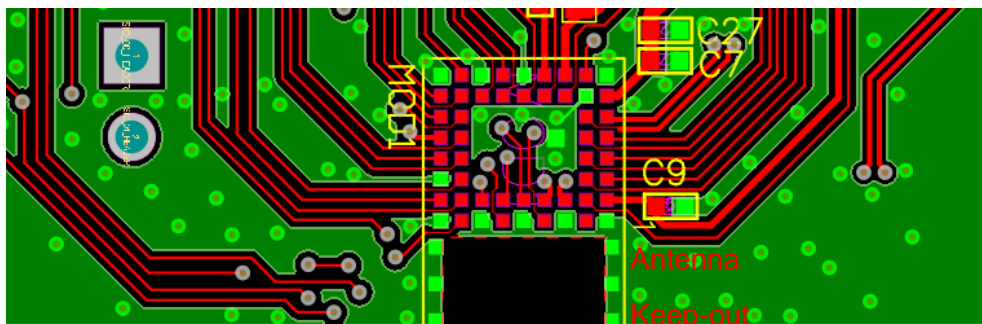

Figure 12: PCB trace Antenna keep-out area (shown in red), corner of the BL653 μ development board for the 453-00059 module.
- The BL653 μ development board has the 453-00059 module on the edge of the board (not in the corner). The antenna keep-out area is defined by the BL653 μ development board which was used for module development and antenna performance evaluation is shown in Figure 12, where the antenna keep-out area is ~5 mm wide, 3 mm long; with PCB dielectric (no copper) height ~1 mm sitting under the 453-00059 PCB trace antenna.
- Host PCB land pattern and antenna keep-out for the BL653 μ applies when the 453-00039 is placed in the edge of the host PCB preferably in the edge center. Figure 12 shows an example.